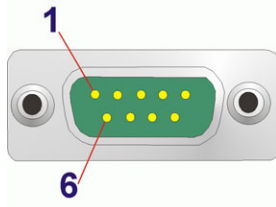

Figure 3-23: COM1 Pinout Locations
- CN Pinouts:** See Table 3-24 and Figure 3-23